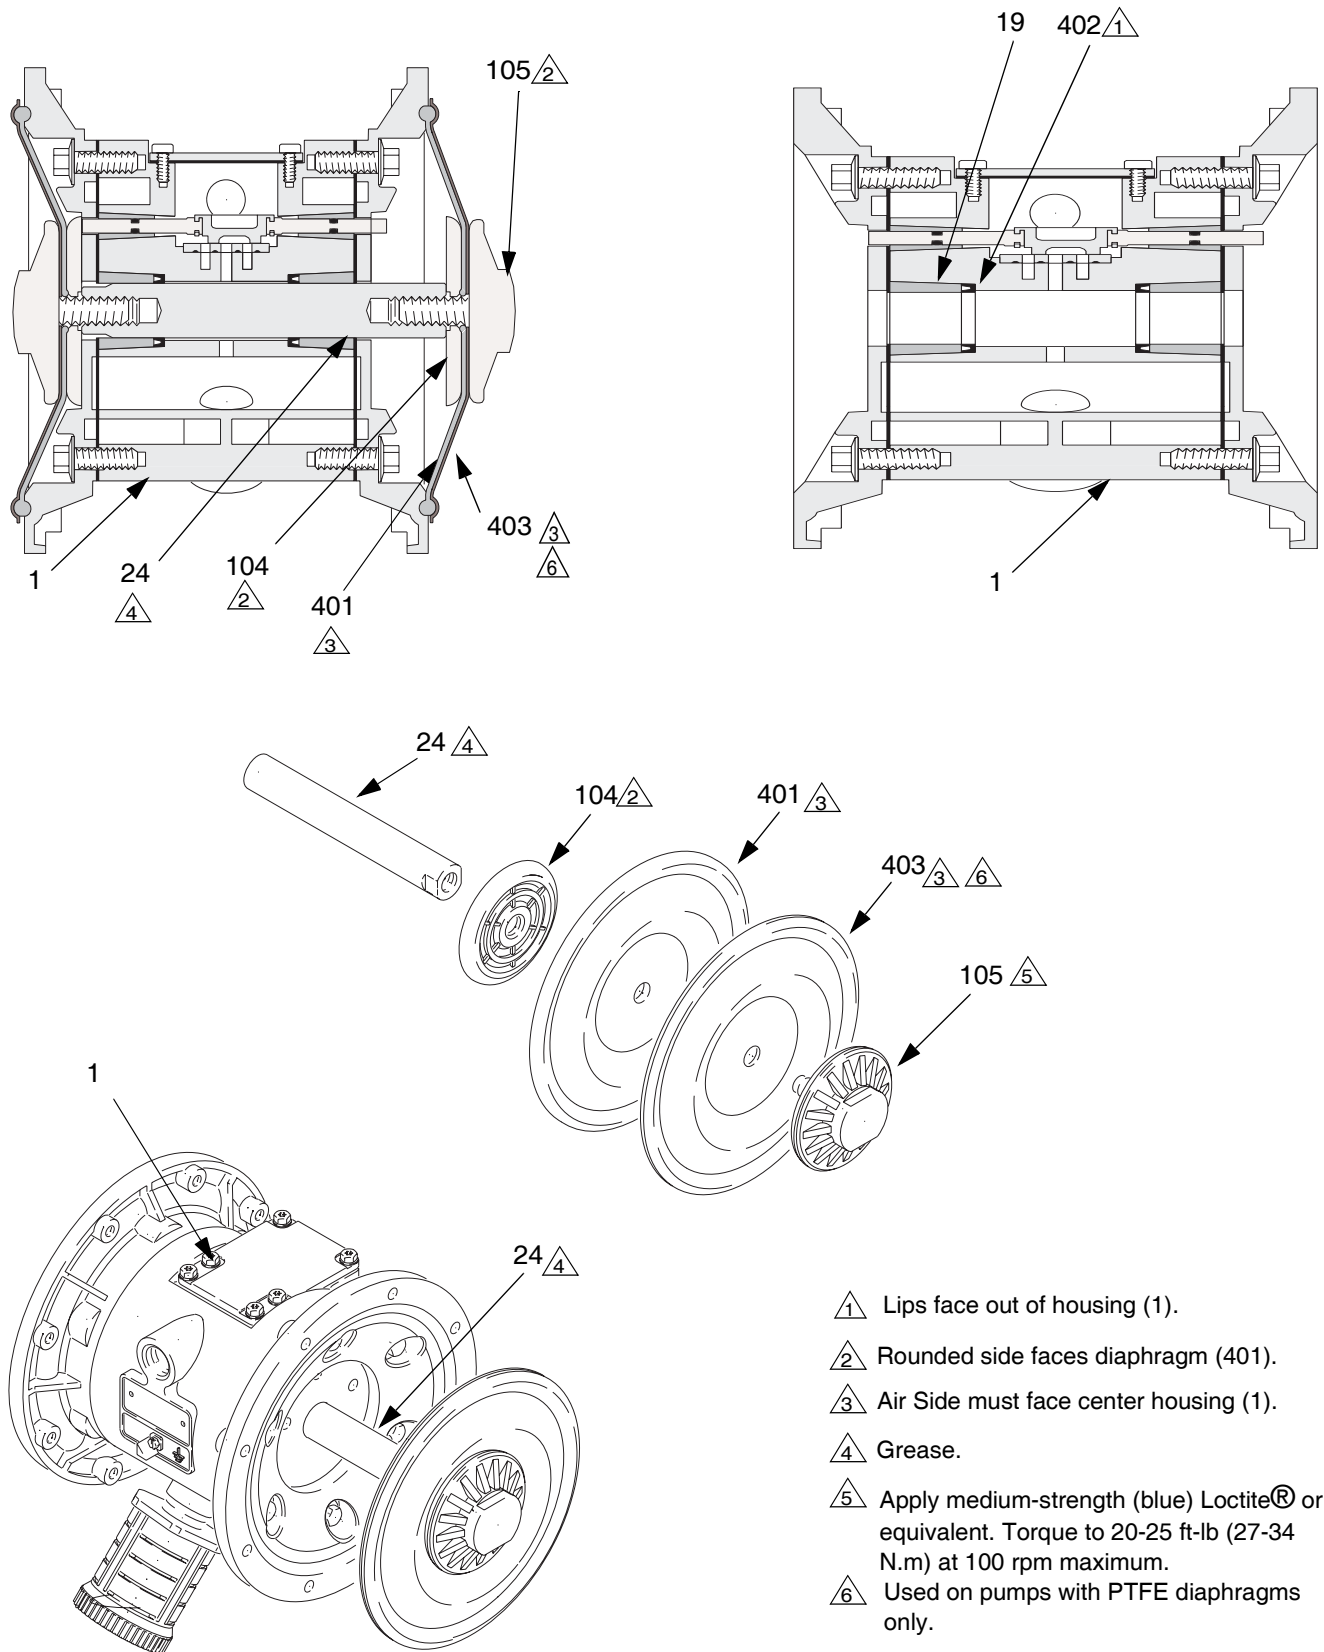

FIG. 6
2. Unscrew one outer plate (105) from diaphragm shaft (24), diaphragm (401), and air side diaphragm plate (104). See FIG. 6.
3. Pull the other diaphragm assembly and the diaphragm shaft (24) out of the center housing (1). Hold the shaft flats with a open end wrench, and remove the other outer plate (105) from the shaft. Disassemble the remaining diaphragm assembly.
1. Inspect the wrench flats on the shaft (24) for burrs that could damage the air motor seals (402). Use a file to remove any burrs.
2. Grease the length and ends of diaphragm shaft (24), and slide it through the new Stainless Steel Plus housing (1).
3. Assemble the inner diaphragm plates (104), diaphragms (401), PTFE diaphragms (403, if present), and outer diaphragm plates (105) exactly as shown in Fig. 6. These parts **must** be assembled correctly.
4. Apply medium-strength (blue Loctite or equivalent to the threads of the fluid-side plate (105). Hold one of the outer plates (105) with a wrench, and torque the other outer plate to 20-25 ft-lb (27-34 N.m.) at 100 rpm maximum. **Do not over-torque.**
5. Align the fluid covers (101) and the center housing (1) so the arrows (A) on the covers face the same direction as the air valve (B). Apply